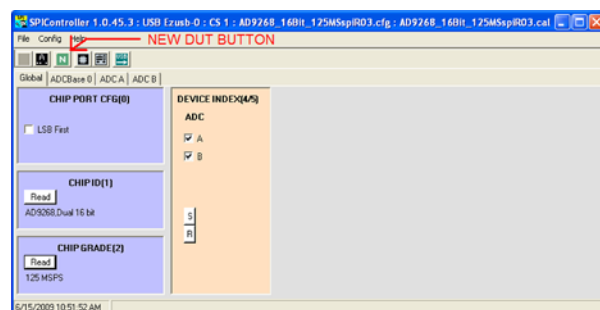

Figure 11. SPI Controller, New DUT Button
2. Click the **New DUT** button in the **SPIController** window (see Figure 11).